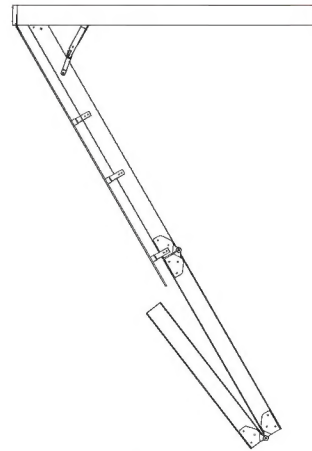

Figure 10
- Make sure you open the folding aluminum attic ladder door completely so that the force of the Hydroneumatic Cylinder will not try to close the folding aluminum attic ladder door (see Figure 10).